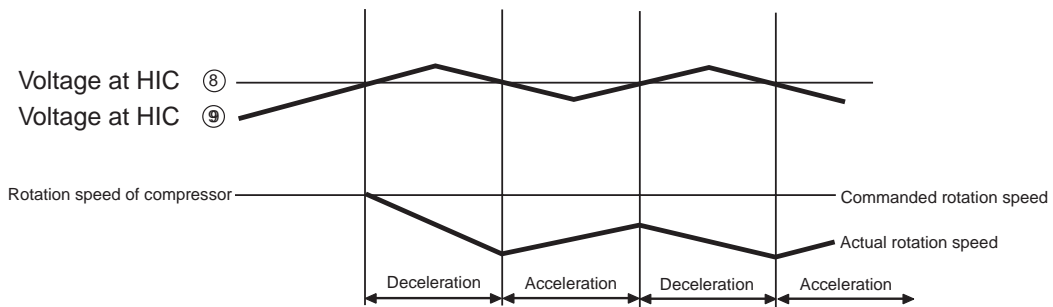

Fig. 8-7
①. Overload external judgement circuit
- The filter consisting of R320 and C1 removes high harmonic components from the voltage generated by the current flowing to R806, R2 and C304 average the voltage. This voltage is then input to OP1 pin ⑤ and amplified and is supplied to micro computer pin ⑫ which is compared with the voltage at pin ⑬. If the voltage at pin ⑫ is higher than that at pin ⑬, the micro computer enters the overload control mode.
- Fig. 8-7 shows the rotation speed control. When the voltage at pin ⑨ of HIC exceeds the set value at pin HIC ⑧, the micro computer decreases the rotation speed of the compressor and reduces the load regardless of the rotation speed commanded by the indoor micro computer.